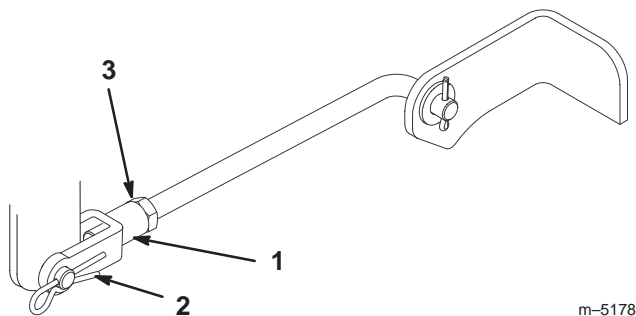

Figure 43
7. To adjust the front-to-rear blade slope, remove the hairpin cotter from the front trunnion yokes and loosen the jam nuts (Fig. 43).
8. Rotate the yokes on the rods to change the adjustment (Fig. 43). To raise the front of the mower, tighten the yokes (shorten the rods). To lower the front of the mower, loosen the yokes (lengthen the rods).